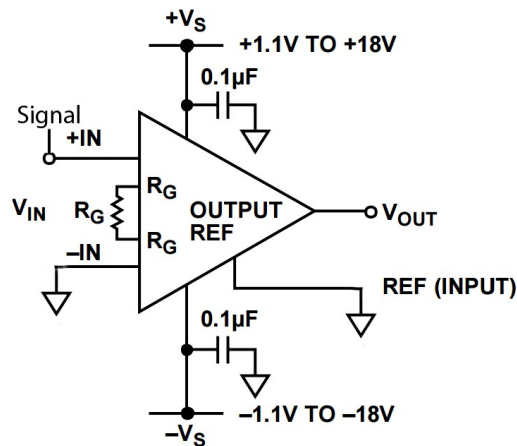

**Figure 2** Connections of two 1.5 V batteries to produce a positive and negative power sources with a common ground
- 1.2 Like the LM741 and LT1490 Chips, the AD627 requires external DC power supplies for operation. It can be connected with one supply, but in this case we will use two 1.5 V batteries. Connect the AD627 instrumentation amplifier as shown in Figure 1 (page 15 of the spec sheet, posted on Canvas), in **double-ended power configuration, using ground for the REF input**. Use the provided 1.5 V battery connectors, being sure to provide a positive and negative 1.5 V supply (i.e. the two batteries must be connected with opposite polarity but common ground). Figure 2 shows the connection for the batteries to produce a positive and negative power source. **Note that, unlike the 1490 op-amp, you will destroy the AD627 chip if you connect the power supply wrong. So double/triple check your wiring before connecting the power!!!**